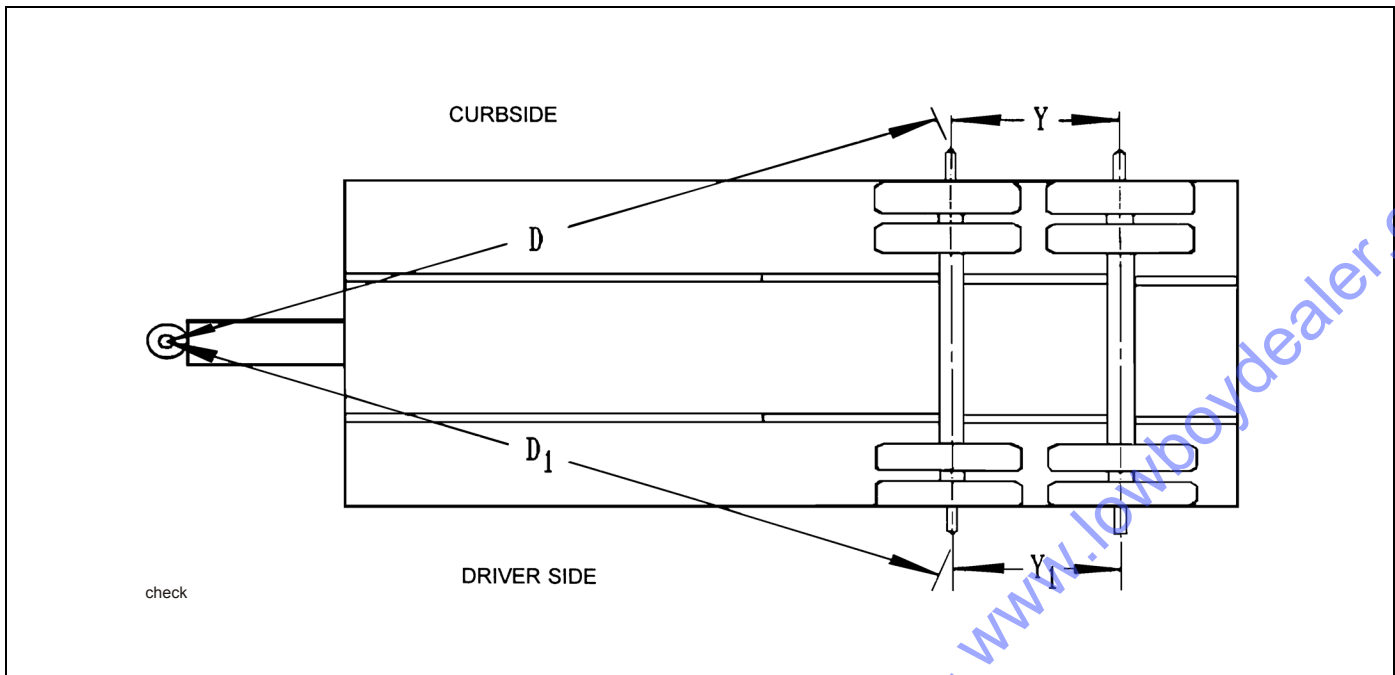

Figure 4-7: Checking Axle Alignment
3. Move the axle gauge and place against the back side of the axle. If either of the points of double point end fails to touch the axle surface, a bent spindle is evident. A point gap of .015" or more is considered excessive tire "toe" and the axle must be replaced (See Figure 4-7.)
4. Measure (D) from the plumb bob to the center point on one end of the axle. Record this measurement (See Figure 4-7.)
5. Measure (D1) to the other end of the axle in the same manner as in step 4. Record this measurement (See Figure 4-7.)